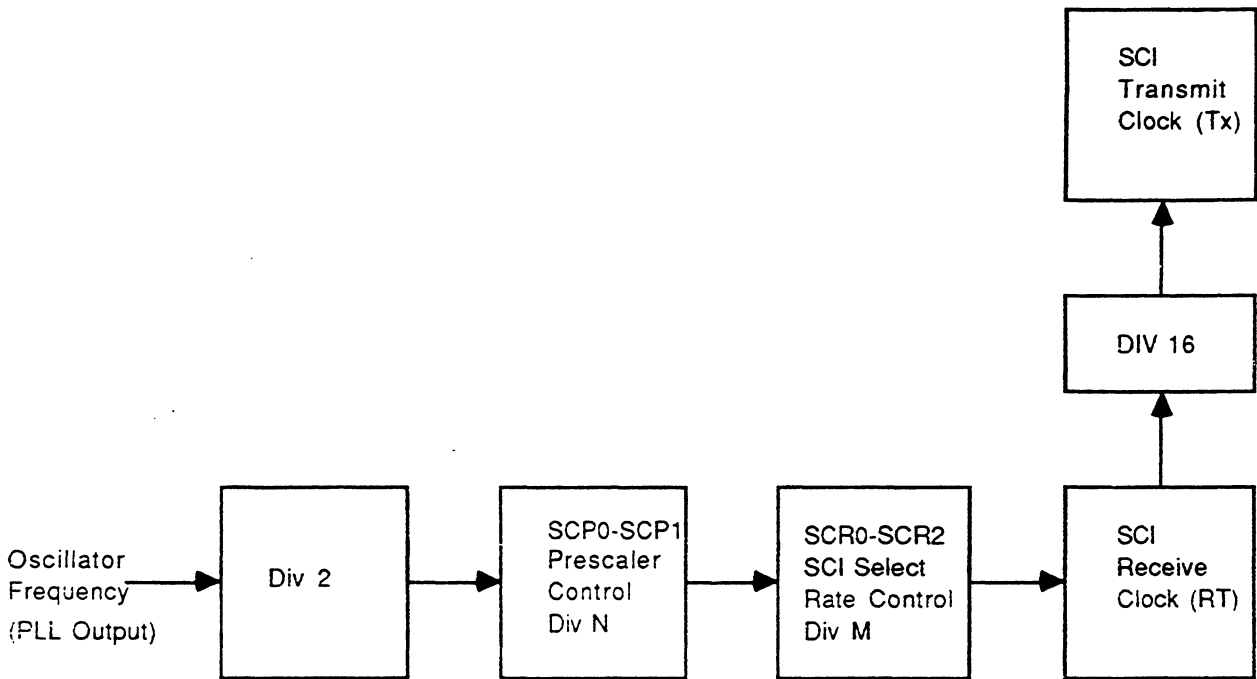

FIG. 5-7 Rate Generator Division
The diagram of Fig. 5-7 and Tables 5-1 and 5-2 illustrate the divided chain used to obtain the baud rate clock (transmit clock). Note that there is a fixed rate divide-by-16 between the receive clock (RT) and the transmit clock (Tx). The actual divider chain is controlled by the combined SCP0-SCP1 and SCR0-SCR2 bits in the baud rate register as illustrated. All divided frequencies shown in the first table represent the final transmit clock (the actual baud rate) resulting from the internal processor clock division shown in the "divide-by" column only (prescaler division only). The second table illustrates how the prescaler output can be further divided by action of the SCI select bits (SCR0-SCR2). For example, assume that a 9600 Hz baud rate is required with a 2.4576 MHz PLL output clock. In this case the prescaler bits (SCP0-SCP1) could be configured as a divide-by-one or a divide-by-four. If a divide-by-four prescaler is used, then the SCR0-SCR2 bits must be configured as a divide-by-two. This results in a divide-by-128 of the internal processor clock to produce a 9600 Hz baud rate clock. Using the same PLL output clock, the 9600 baud rate can be obtained with a prescaler divide-by-one and the SCR0-SCR2 bits configured for a divide-by-eight.